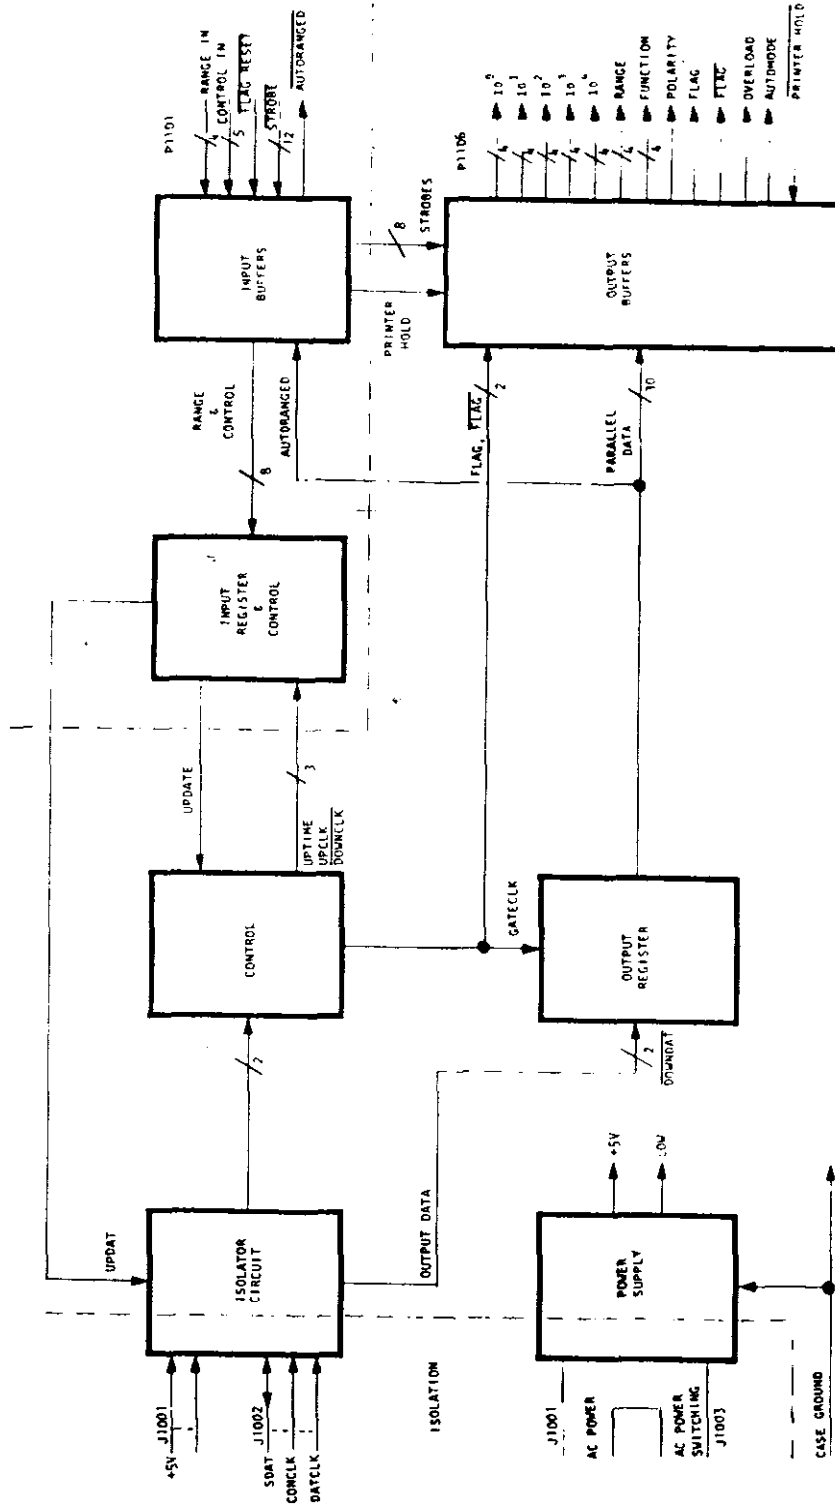

FIGURE 33. Model 1722 Block Diagram
a. Overall Block Diagram. As shown in Figure 33, Serial data from the DMM and its associated clock lines are first isolated. Bidirectional data line SERDAT is then split. Output data DOWNDAT goes to the output register block where it is converted to parallel form and then to the output buffers. The clock lines go to the control block which decides where the data is going, out or in, and also generates the flag.